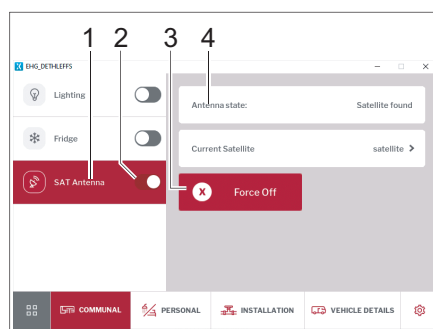

Fig. 262 Satellite unit
- Use the switch to turn the satellite unit (Fig. 262,2) on or off.
- Click on the *SAT unit* (Fig. 262,1) button. The selected satellite will be displayed (Fig. 262,4).
- Click on the *Emergency Stop* (Fig. 262,3) button, if the unit is driving against resistance.